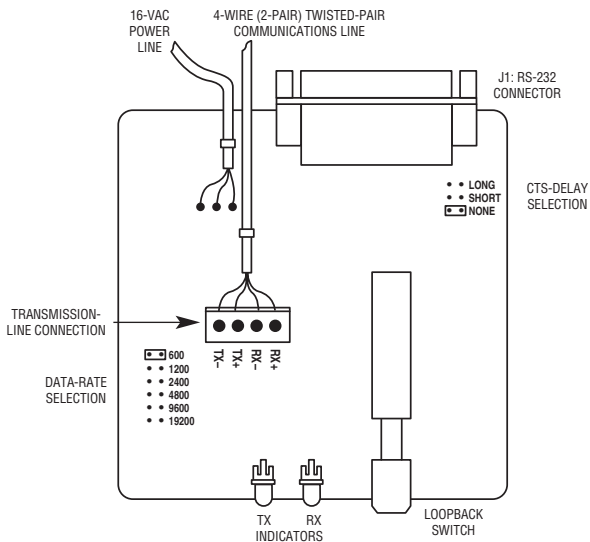
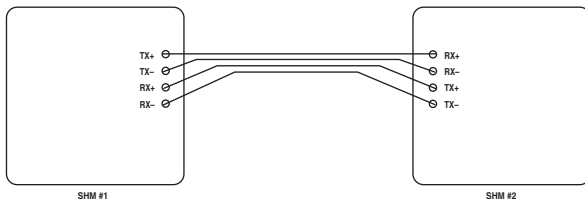

Figure 3-1. The SHM-B Sync's circuit board. (Standalone board shown; card version will not have power-line connection.)
Figure 4-1. Cable wiring between SHM-B Sync units.
- Six pairs of posts are used to set the SHM-B Sync's data rate. They're at the front of the left-hand side of the board (the ones labeled "DATA-RATE SELECTION" in Figure 3-1). The six possible data-rate settings are 600, 1200, 2400, 4800, 9600, and 19,200 bps. The factory-default value is 9600 bps; if your RS-232 equipment is using one of the other data rates, set the jumpers in both units accordingly by moving the jumper to the appropriate pair of
- Three pairs of posts are used to set the SHM-B Sync's CTS delay. They're at the rear of the right-hand side of the board (the ones labeled "CTS-DELAY SELECTION" in Figure 3-1). The CTS delay is the amount of time that the SHM-B Sync waits after detecting that the attached device has raised RTS before it responds by raising CTS. The possible settings are LONG (53 ms), SHORT (7 ms), or NONE. Factory default is NONE, but if your RS-232 device needs to see a CTS delay in order to function properly, move the jumper to the appropriate post *in that SHM-B Sync only*.
2. Feed the 4-wire twisted-pair cable that will run between your SHM-B Sync units through the appropriate hole in the back of the case (refer to Figure 3-1 on the previous page). Refer to **Appendix A** for maximum-length guidelines for this cable.
- Thread the bare ends of the four wires into the four screw terminals on the SHM-B Sync's board marked RX+, RX-, TX+, and TX-. Refer to Figure 3-1 on page 11 for the location of these terminals. Bear in mind as you do this that the wires must run from TX+ in one SHM-B Sync to RX+ in the other, and from TX- to RX-, RX+ to TX+, and RX- to TX-, as shown in Figure 4-1 below.
4. Thread the bare ends of the four wires into the four screw terminals on the SHM-B Sync's board marked RX+, RX-, TX+, and TX-. Refer to Figure 3-1 on page 11 for the location of these terminals. Bear in mind as you do this that the
wires must run from TX+ in one SHM-B Sync to RX+ in the other, and from TX- to RX-, RX+ to TX+, and RX- to TX-, as shown in Figure 4-1 on page 14.
2. Is the 4-wire cable connected and wired properly? Make sure the four wires are securely connected to the proper terminals on your SHM-B Sync; refer to Figure 4-1 on page 14 for end-to-end pinning. If the wires are connected properly, check the data-rate settings of your SHM-B Sync units and make sure that the attached devices are set to receive clock from them. (If your SHM-B Sync units are standalone models, these inspections will require that you carefully open their cases—see **Chapter 3**.)
Is the 4-wire cable connected and wired properly? Make sure the four wires are securely connected to the proper terminals; refer to Figure 4-1 on page 14 for end-to-end pinning. If the wires are connected properly, check the data-rate settings of your SHM-B Sync units and make sure that the attached devices are set to receive clock from them. (If your SHM-B Sync units are standalone models, these inspections will require that you carefully open their cases—see **Chapter 3**.)
2. Is the 4-wire cable wired properly? Make sure the four wires are connected to the proper terminals on your SHM-B Sync units; refer to Figure 4-1 on page 14 for end-to-end pinning. (If your SHM-B Sync units are standalone models, these inspections will require that you carefully open their cases—see **Chapter 3**.)